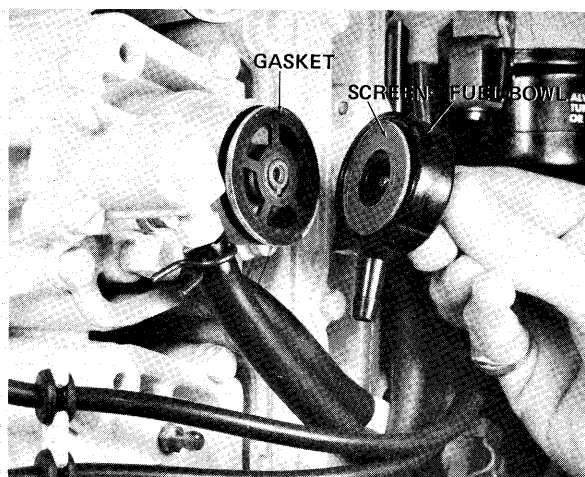

Figure 2.—Sediment Bowl, Screen and Gasket
- B. Install screen in sediment bowl with turned over edge towards cylinder. See figure 2.